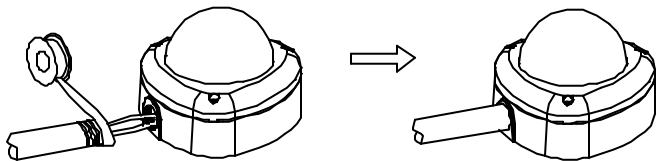

Figure 6
- (7) When using the side conduit cabling, it is suggested to use metal cover over the cables to prevent external damage and as to weatherproof prevention, please wind the weatherproof adhesive tape (P.T.F.E. THREAD SEAL TAPE) onto the metal cover before installation (as shown on figure 6 ).